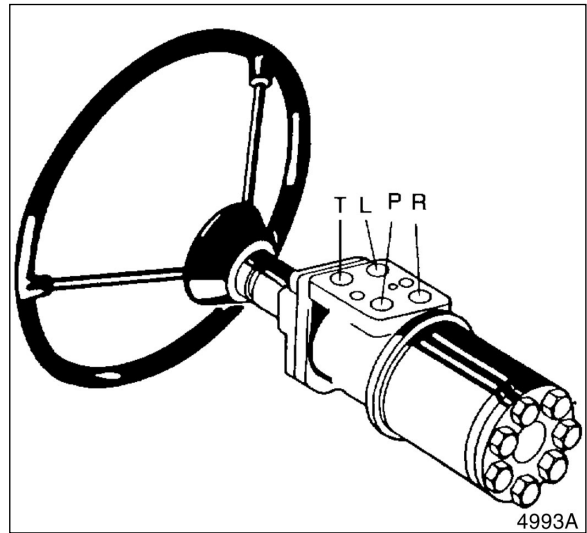

Figure 63
33. Figure 63, shows port identification for steering unit.